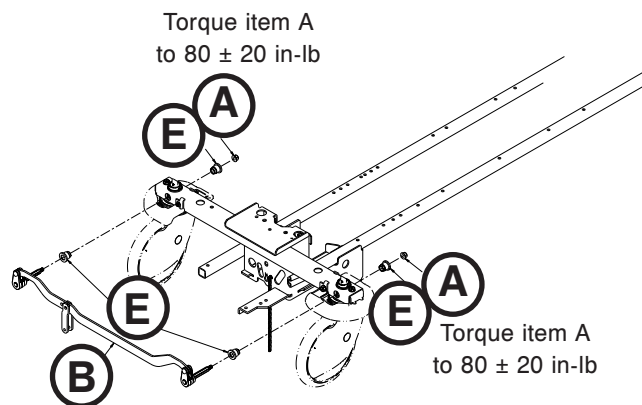
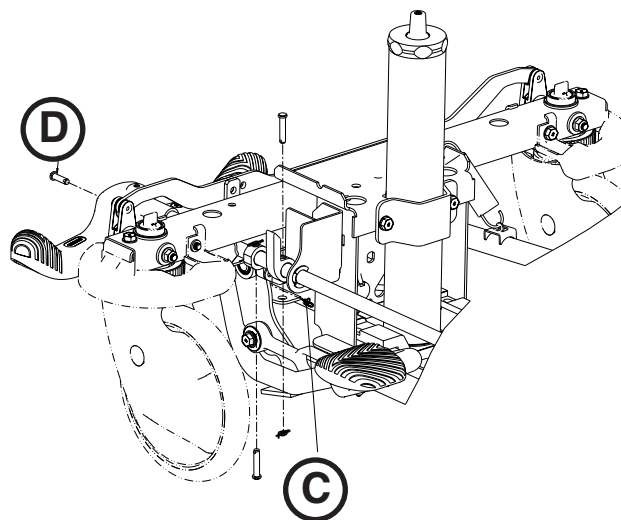

Figure 5
Figure 6
7. Using a 1/2" socket with a 3/8" drive extension and a 3/8" drive ratchet, remove the two flange nuts (A) (one on each side) that secure the foot end brake link assembly (B) to the casters (Figure 5).
8. Using needle nose pliers, remove the rue ring cotter (C) and then the clevis pin (D) from the brake rod activator (Figure 6).
13. Reverse steps to reinstall. Torque the two flange nuts (A) that secure the foot end brake link assembly (B) to the casters to  $80 \pm 20$  in-lb.
**Note:** When installing the new foot end brake link assembly (B), be sure to reinstall the bearing (E) which may have fallen off during the removal of the old foot end brake link assembly (B) (Figure 5).